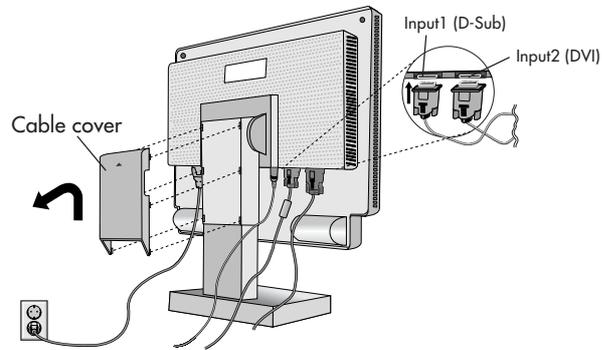

Figure D.1
4. Remove cable cover. Connect the 15-pin mini D-SUB of the video signal cable and DVI signal cable (not included) to the appropriate connector on the back of the monitor (**Figure D.1**).